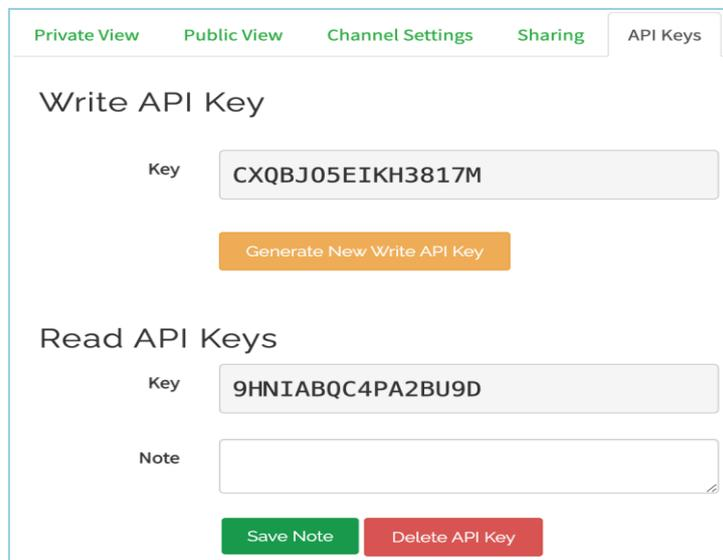

Figure B4
21. API keys will appear as in Figure B4.